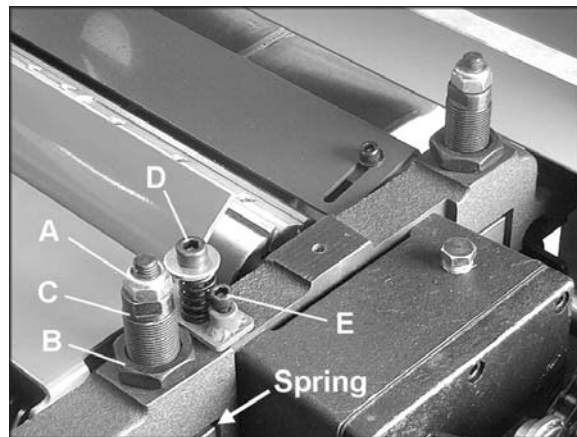

Figure 15
2. Move the gauge to the extreme right end of the infeed roller and check the measurement. If it is not, loosen the nut (B, Fig. 15), place a wrench upon the flats of the screw (C, Figure 15) and turn the screw as needed, to raise or lower the infeed roller at the right end.
2. Notice that as the spring tension is adjusted, the infeed roller moves up or down. This will affect the height of the roller which was previously set. After tensioning is done, the height adjustment elements (B & C, Figure 15) should be re-adjusted to counteract the
3. **The spring which is located above the bushing block (see Figure 15) must not be compressed too tightly**, as this will restrict movement of the infeed roller and may cause machine damage due to flexing of the roller. Lift up the infeed roller with your hand – there should still be sufficient travel in the infeed roller.
The chipbreaker is factory adjusted to be 1/32" below the cutting arc of the knives. Tension is adjusted by the screw and spring (D, Fig. 15). The height is adjusted with the socket head screw (E, Fig. 15).